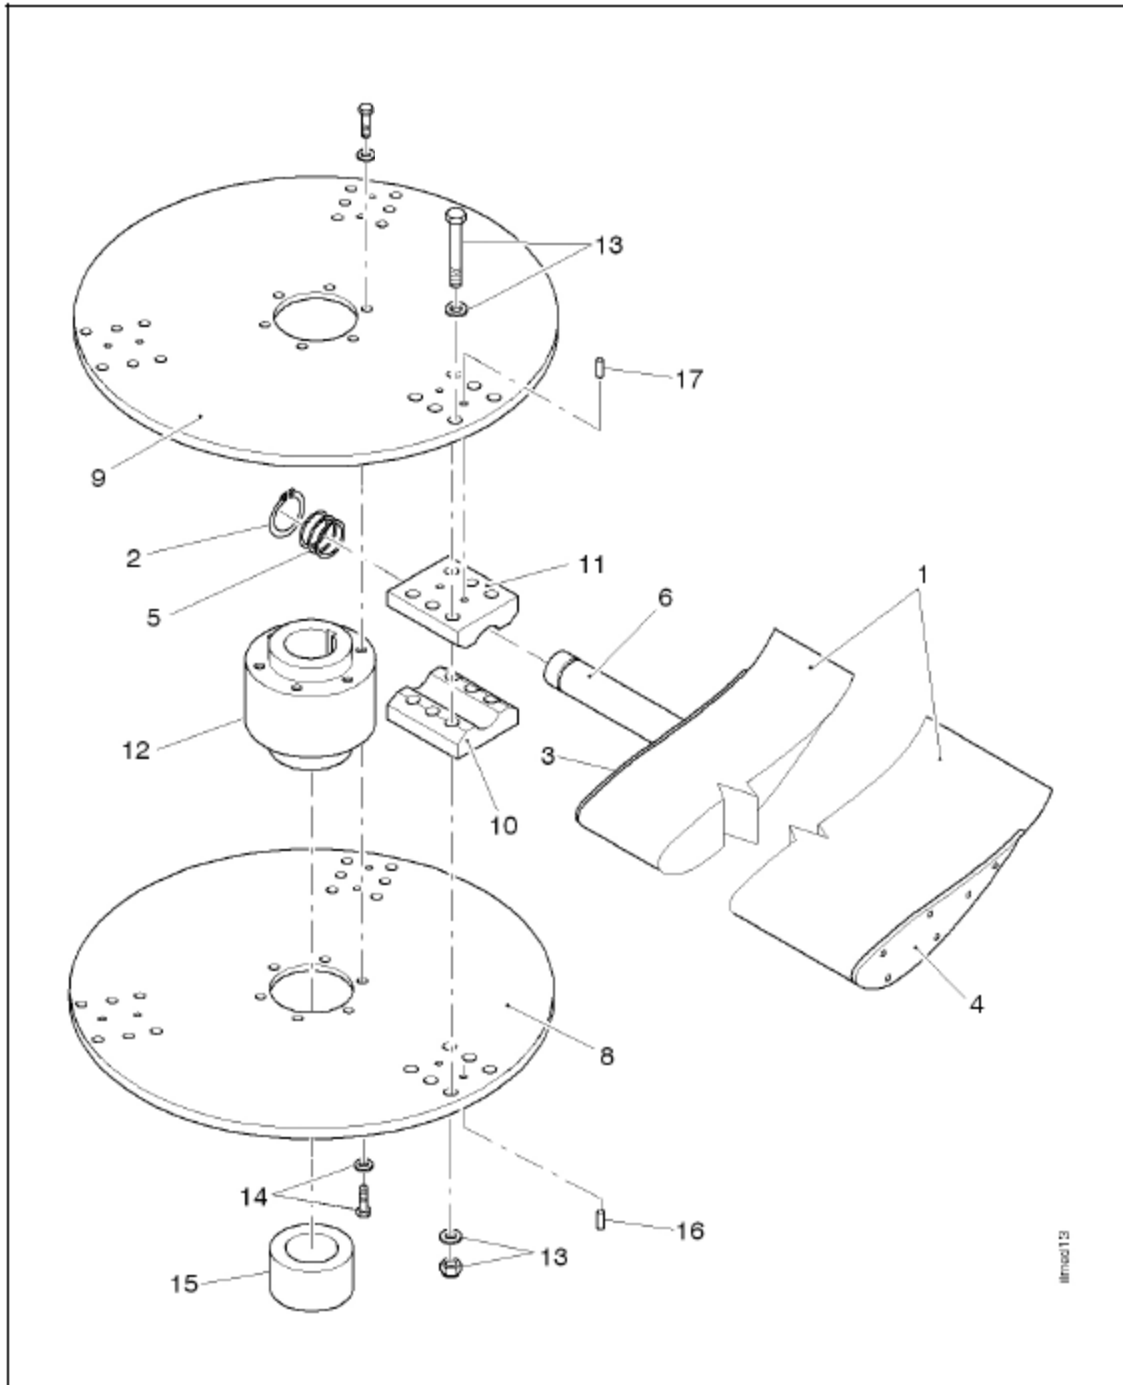

Figure 2-2: Main components of double disc impeller.
The double disc impeller is made of the following parts (refer to Figure 2-2):
2.2.5. DOUBLE DISC IMPELLER DESCRIPTION (Figure 2-2)
Impeller (refer to Figure 2-2) is made of a blade holder hub, a coupling bush, two support discs, a ring and a series of blades.